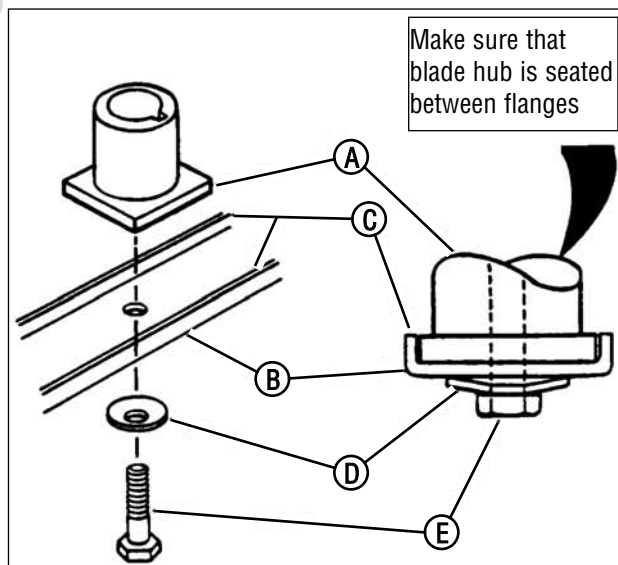

Figure 20: Removing the mower blade
3. Remove the blade (B, Figure 20).
- Reinstall blade (B, Figure 20). Note the correct assembly order:
- (A) Blade hub
- (B) Blade
- (C) Blade flange (facing up)
- (D) Cone washer (concave side up)
- (E) Capscrew